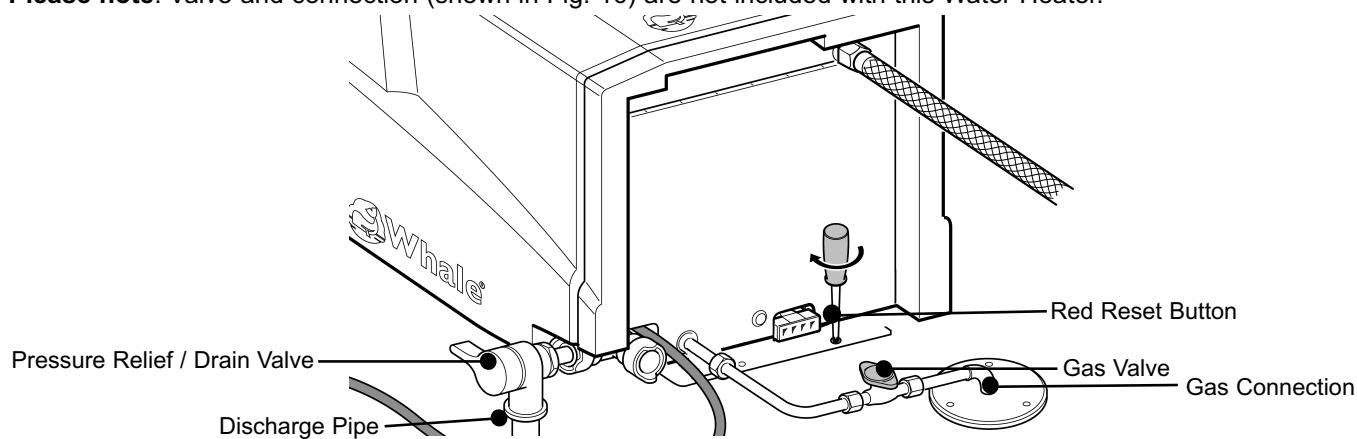

Fig. 16 Connect to Gas Supply
Step 8 Connect to Gas Supply (see Fig. 16)
Please note: Valve and connection (shown in Fig. 16) are not included with this Water Heater.